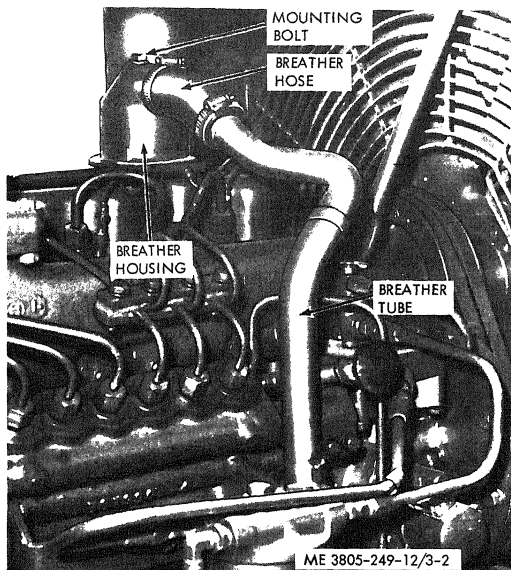

Figure 3-2. Crankcase breather.
a. Disconnect the breather hose (fig. 3-2).